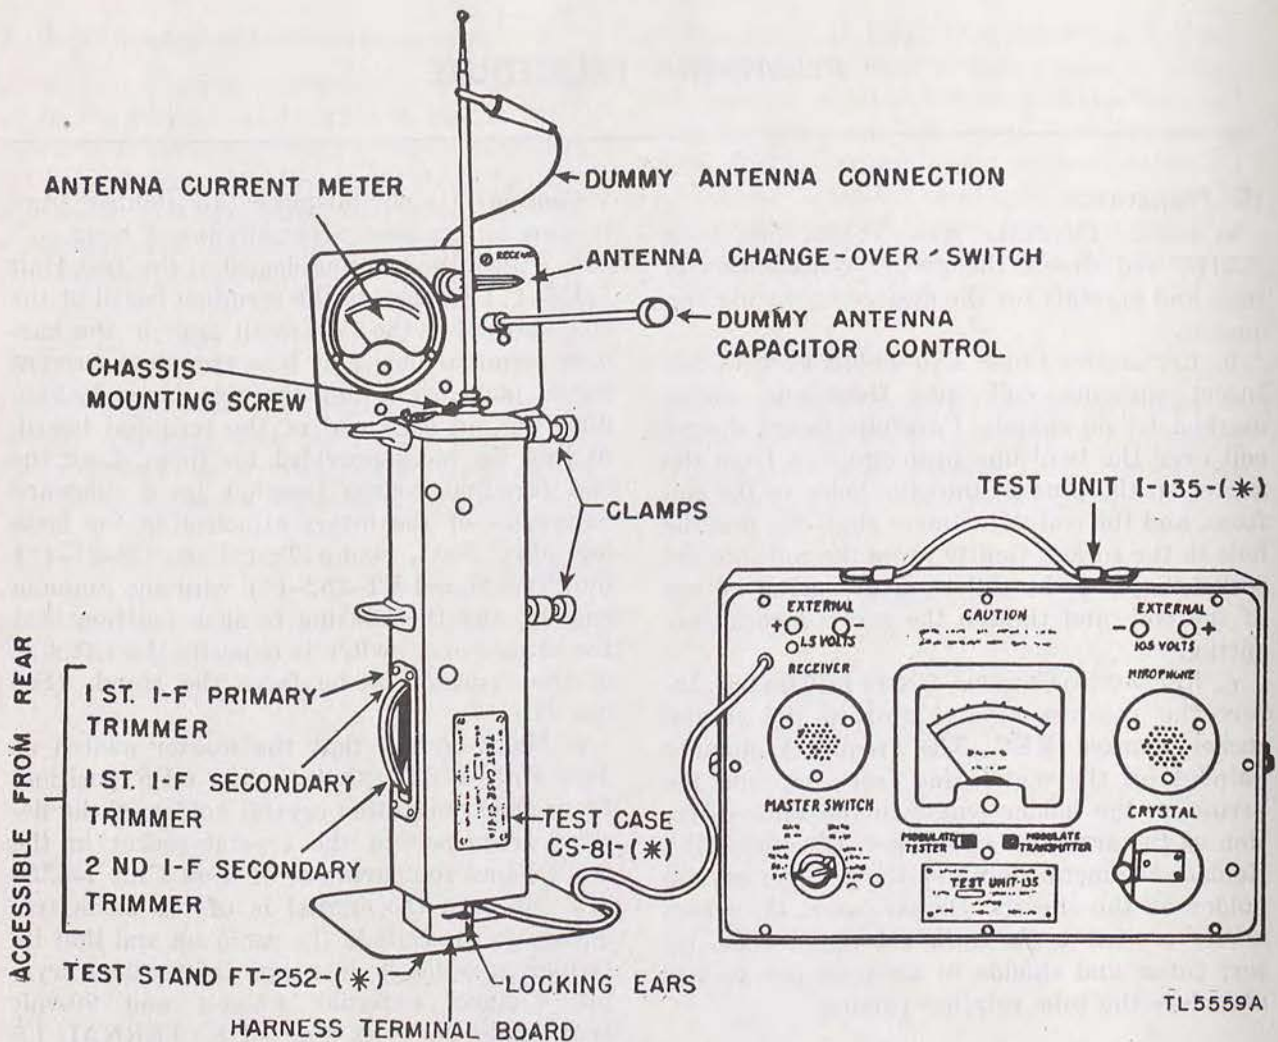

Figure 32. Test Equipment IE-17-(\*)—Set-up.
b. Attach the terminal board of the Test Unit I-135-(\* ) harness to the terminal board of the chassis so that the two small pins on the harness terminal board fit into the plate current meter jacks, and that the two large locking pins, one on each end of the terminal board, fit into the holes provided for them. Lock the two terminal boards together by a sideward movement of the levers attached to the locking pins. Next, clamp Test Case CS-81-(\* ) into Test Stand FT-252-(\* ) with the antenna end up, and the housing in such position that the change-over switch is opposite the left side of the operator as he faces the stand. (See fig. 32.)
d. Grasp the test case with one hand during the following alignment adjustments on the receiver. The location of the receiver tuning adjustments on the radio chassis are shown in figures 32 and 36. With the insulated screw driver, turn the receiver antenna adjustment screw clockwise. Notice the effect of this adjustment on the output meter reading. If the meter reading *increases*, continue to tighten the screw until a maximum reading is obtained. If the reading *decreases*, turn the screw counterclockwise until a maximum reading is obtained. Be careful not to tighten the screw after it begins to turn hard as the threaded base of the trimmer will be stripped. The setting of the trimmer screw for maximum output should fall somewhere between the point of hard tuning and that of minimum pressure. If the maximum is not reached in these limits of the screw adjustment, try another antenna coil. If the set appears to be badly out of alignment, proceed as outlined in paragraph 22.
a. Turn the MASTER SWITCH on test unit to PWR. AMP. position. Adjust the transmitter tank adjustment screw for minimum current reading on the meter in the test unit. The normal reading in this position is approximately 7 milliamperes. See figures 32 and 37 for location of transmitter tank adjustment.
(3) With the MASTER SWITCH of the test unit on OUTPUT 60 V.A.C. (MODULATE TESTER switch ON), adjust the second i-f secondary trimmer for maximum output, next the first i-f secondary trimmer, and then the first i-f primary trimmer. (See fig. 32.) All i-f trimmers are adjusted for peak output meter reading. As the i-f trimmers are aligned, loosen the signal coupling to the receiver antenna so the maximum audio output reading of the meter is not over 10 volts. This is necessary to prevent overloading the receiver and consequent poor alignment of the i-f circuits. The above alignment adjustments must be performed very carefully for good results. Go over the alignment a second time.
(4) After the i-f alignment adjustments have been made, complete the procedure by adjusting the receiver antenna adjustment screw and the receiver tank adjustment as described in paragraphs 19d and 19e.